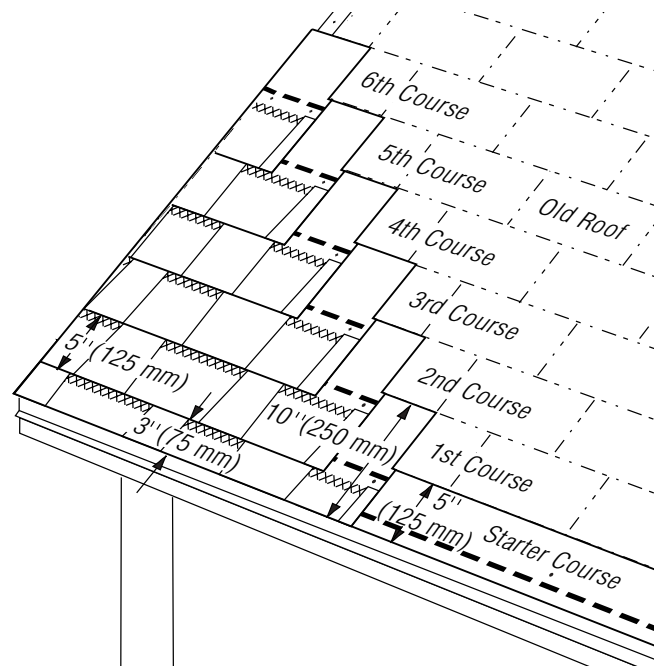

Figure 14-14: Six Off, Six Up, Nested.
1. Cut 6" off the left end of the first shingle and apply the remaining 30" piece over and above the first-course shingle. Exposure of the first course (only) is 3" (Figure 14-14).